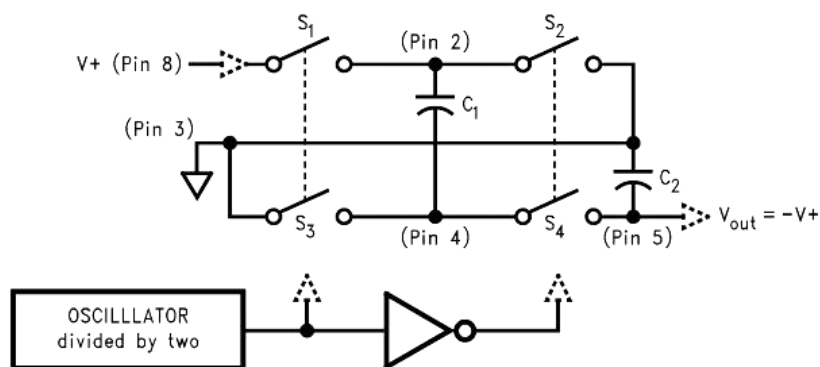

Figure 13. Voltage Inverting Principle
The LM2660 contains four large CMOS switches which are switched in a sequence to invert the input supply voltage. Energy transfer and storage are provided by external capacitors. Figure 13 illustrates the voltage conversion scheme. When  $S_1$  and  $S_3$  are closed,  $C_1$  charges to the supply voltage  $V_+$ . During this time interval switches  $S_2$  and  $S_4$  are open. In the second time interval,  $S_1$  and  $S_3$  are open and  $S_2$  and  $S_4$  are closed,  $C_1$  is charging  $C_2$ . After a number of cycles, the voltage across  $C_2$  will be pumped to  $V_+$ . Since the anode of  $C_2$  is connected to ground, the output at the cathode of  $C_2$  equals  $-(V_+)$  assuming no load on  $C_2$ , no loss in the switches, and no ESR in the capacitors. In reality, the charge transfer efficiency depends on the switching frequency, the on-resistance of the switches, and the ESR of the capacitors.
- $R_{SW}$  is the sum of the ON resistance of the internal MOS switches shown in Figure 13. (1)